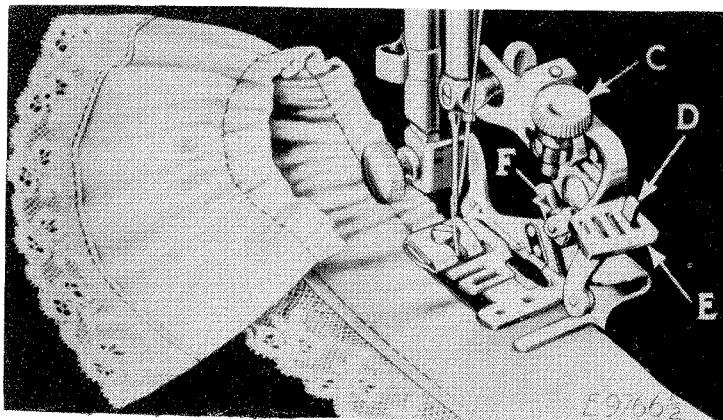

FIG. 41.
Raise the needle bar to its highest position and remove the presser foot. Attach the ruffler foot (A) to the presser bar from the right and fasten by means of the thumb screw, at the same time placing the fork arm (B) astride the needle clamp as shown in Fig. 41.
The adjusting finger (F) is not intended for gathering and should be moved forward or away from the needle, as shown in Fig. 41.